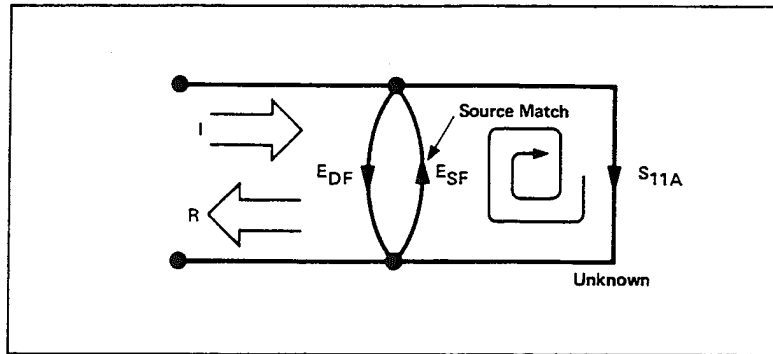

Figure 7-52. Source Match ESF
**Source match error.** Since the measurement system test port is never exactly the characteristic impedance, some of the reflected signal is re-reflected off the test port, or other impedance transitions further down the line, and back to the unknown, adding to the original incident signal (I). This effect causes the magnitude and phase of the incident signal to vary as a function of  $S_{11A}$  and frequency. This re-reflection effect and the resultant incident power variation are modeled by the source match error term, ESF (Figure 7-52).